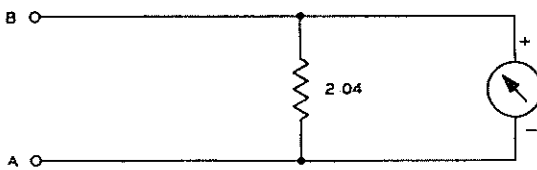

FIG. 10
14. **Switch in Posn. 9 (0-50 mA. D.C.).**—The meter movement is shunted by a resistor of 2.04 ohms. Since this is 1/49th of the resistance of the meter, 49 mA. will pass through the shunt and 1 mA. through the movement, giving a full-scale deflexion of 50 mA. The circuit for this test is shown in Fig. 10.